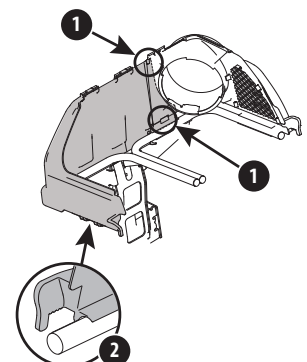

Figure 9
3. Slide the left grass catcher cover over the upper chute support and the hanger assembly rail. Carefully latch the two tabs in place into the front of the upper chute support, see (1) in Figure 9.
4. Fit the snaps onto the left side hanger assembly rail. See (2) in Figure 9.